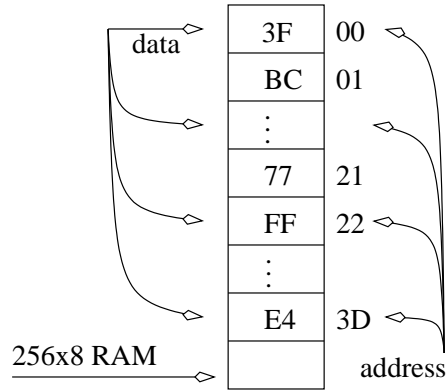

Figure 8.3: A 256x8 RAM loaded with some data.
To illustrate the desired behavior of your circuit, see Figure 8.3. In this figure if PC=0 then the word at that address (3F) has a MSB of 0 so the PC is incremented to 1. The word at address 1 is fetched (BC) and has an MSB of 1 so the least significant 7 bits of BC are added to the PC, making its new value 3D. repeating this process sees the PC goto address 21, 22, 21, 22 into a never ending cycle. Make sure your solution identifies how to add the least significant 7-bits to an 8-bit PC.